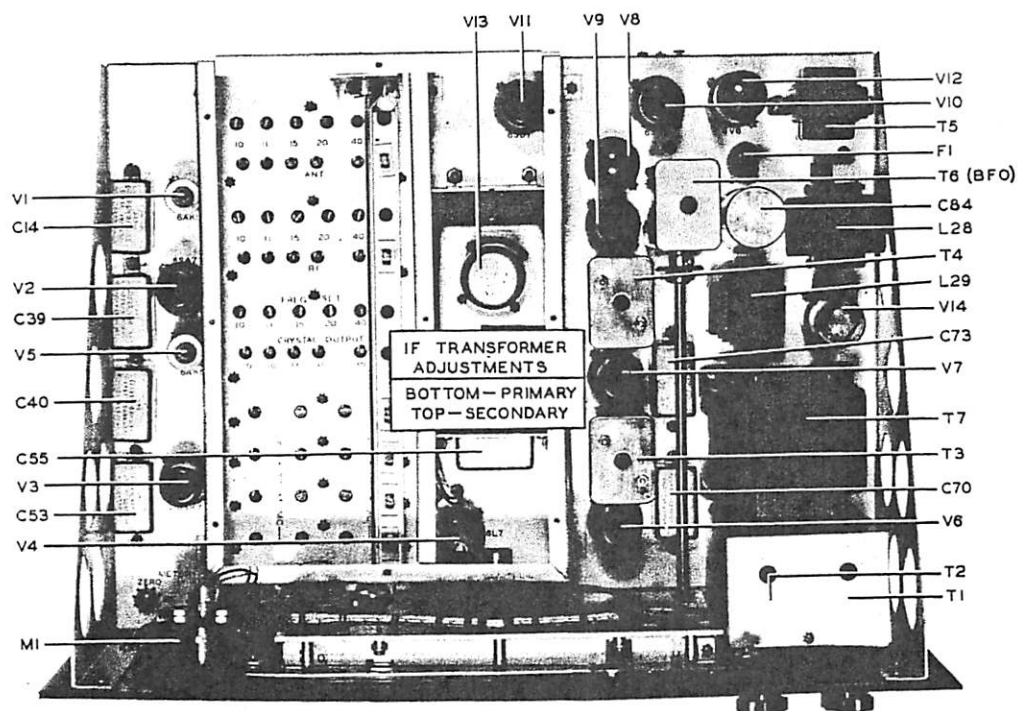

FIGURE 5-2 75A RECEIVER-TOP OPEN
- c. Refer to figure 5-2. Tune first the secondary and then the primary of the i-f transformers T4 and T3 and then the primary of T1 (See paragraph 5-18 for alignment of T2) tuning for maximum output on the S meter but attenuating the signal generator output to stay below a meter reading of S9.